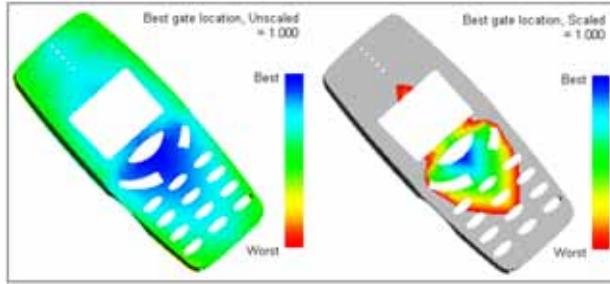

Figure 93: Phone - best gate
2. Rotate the model to view all sides and then pick a good rotation where you can see the blue area(s) well. A good rotation is shown in Figure 93. The results are scaled 0.8 to 1.0 and unscaled, in Figure 93 to better highlight the best gate location.